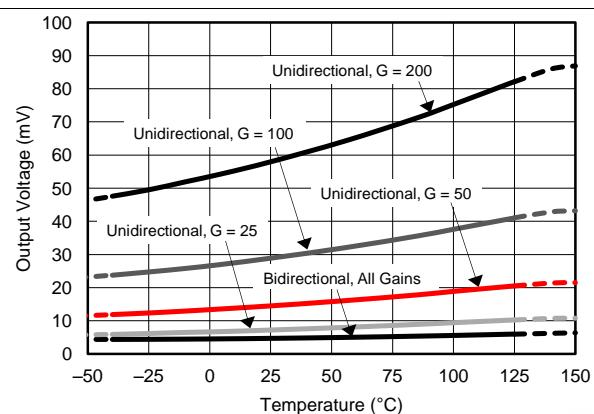

Figure 14. Unidirectional Output Voltage Swing vs. Temperature
(3) See Typical Characteristic curve, *Unidirectional Output Voltage Swing vs. Temperature* (Figure 14)